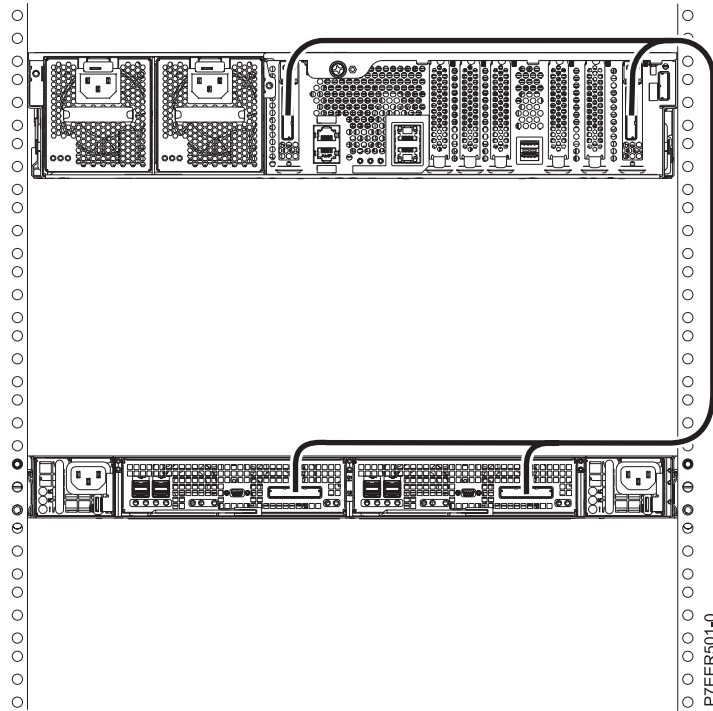

Figure 16. One 5888 PCIe storage enclosure connected to an 8231-E1C or 8231-E2C system by using two FC EJ0H PCIe2 GX++ adapters and two PCIe cables
Figure 16 on page 16 shows an example of connecting a 5888 PCIe storage enclosure to an 8231-E1C or 8231-E2C system by using two feature code (FC) EJ0H PCIe2 GX++ adapters and two PCIe cables.